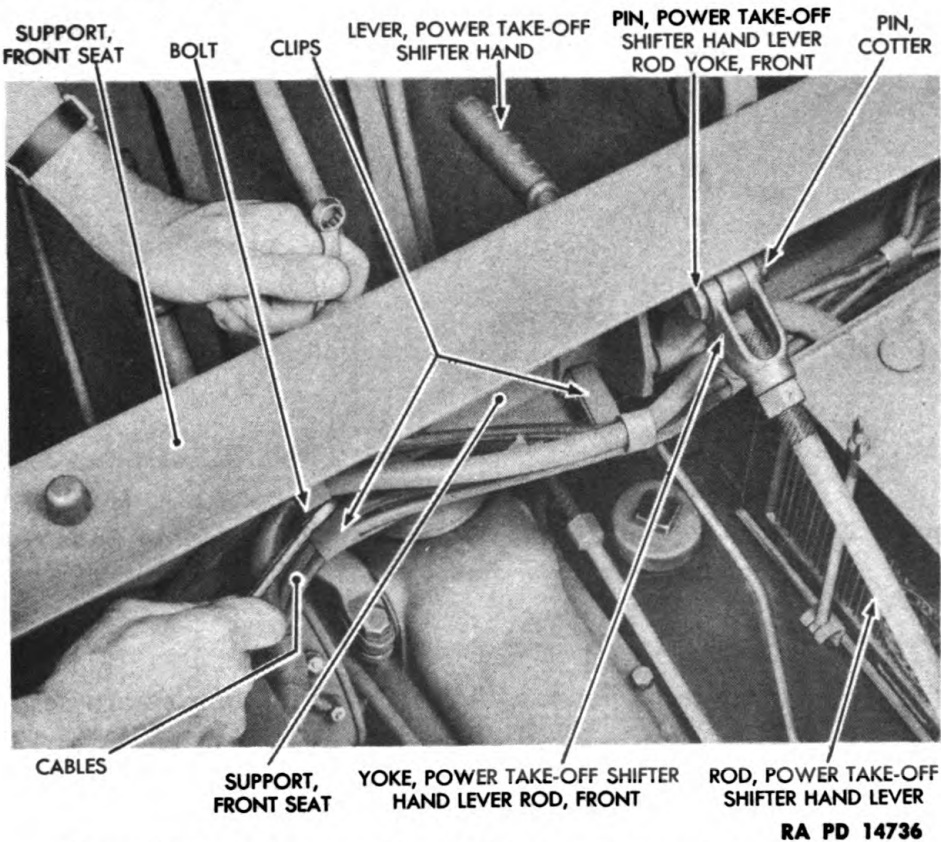

Figure 190 — Disconnecting Cables from Front Seat Support
(6) DISCONNECT CABLES FROM FRONT SEAT SUPPORT (fig. 190).
(7) DISCONNECT FRONT POWER TAKE-OFF SHIFTER HAND LEVER ROD YOKE FROM POWER TAKE-OFF SHIFTER HAND LEVER (fig. 190).